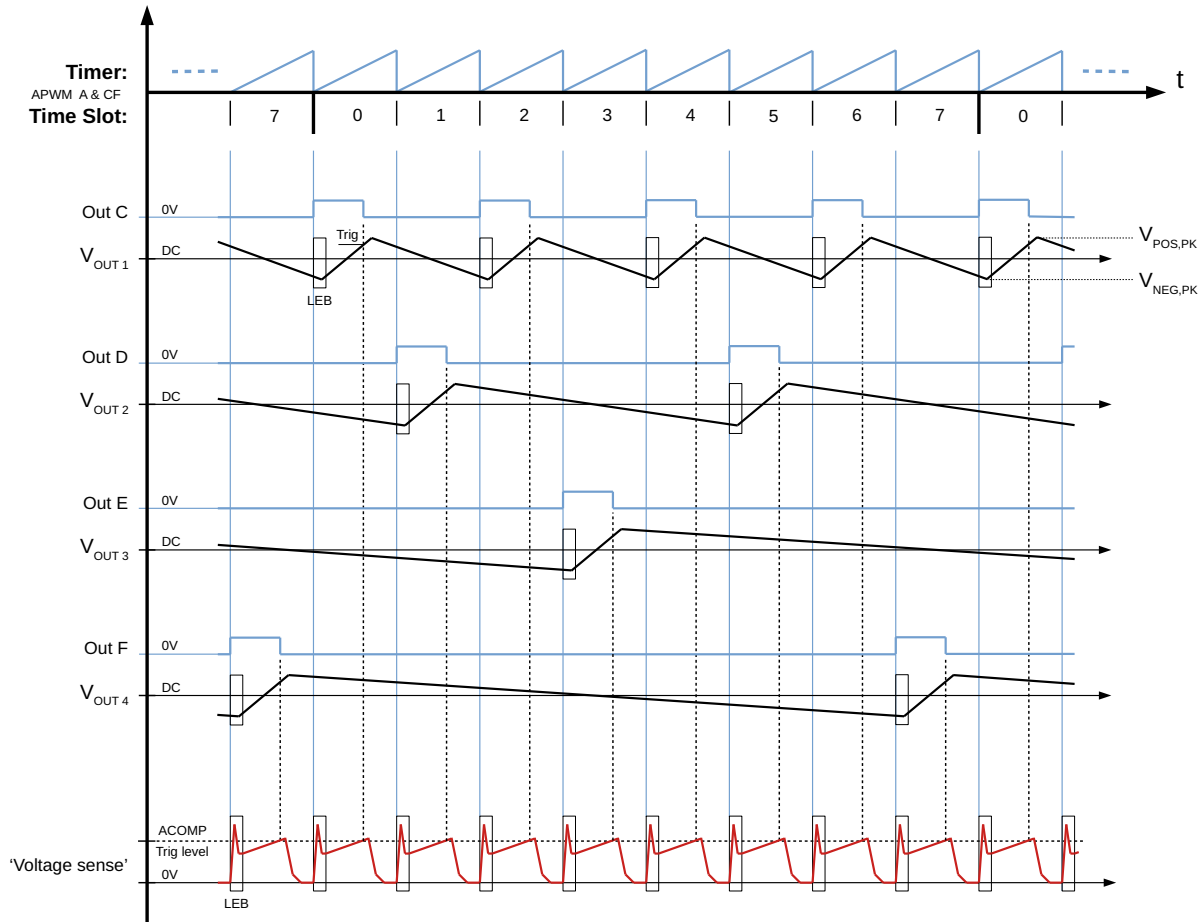

Figure 137. Timing diagram of a multi-converter controller for four output voltages.
Time slot configuration is set to 8 slots in the APWM_A Timer and the APWM_CF Timer, i.e., slot 0 to 7 exist. It is critical that both these Timers are configured identically, including their input Tick control from the same Main Timer, see figure 121. In this example, one output voltage uses every second slot, one uses two slots, and the last two outputs use one slot each, see figure 137. For configuration of APWM_CF, see section 53.4.
In the first time slot in figure 137, Out C turns on and connects its feedback signal to the ACMP input, see the red signal paths in figure 136. The output voltage, V_{OUT} , for this converter starts to increase. When it reaches the ACMP trigger level, the APWM_A State signal goes low, which is configured to end the duty cycle in APWM_CF. Thus, Out C goes low and turns off its power switch. After this slot ends, Out D turns on and connects its feedback signal to the ACMP input. This output voltage starts to increase, and when it reaches the ACMP trigger level the APWM_A ends the duty cycle so Out D goes low and turns off its power switch. In each of the 8 time slots, the ACMP controls the duty cycle in the active APWM_CF block in the same way. When the last time slot (7) has been executed, the sequence restarts immediately in the first time slot (0) again.
The output current capability for each output voltage will be according to the single-converter case above, but linearly decreased to be proportional to the number of time slots used for each output. So if all 8 slots would be used for one output, the capability is equal to the single-converter case, but the multiple APWM_CF concept would obviously be pointless. If half of the slots are used for one output, like for V_{OUT1} in figure 137, the current capability becomes 1/2. If 1/8 of the slots is used, like for V_{OUT3} and V_{OUT4} , the current capability becomes 1/8. Regarding the converter internal power dissipations, the average dissipations from cooling point of view will be reduced by the same slot factors. However, the pulse/peak stresses in the components will stay the same as in the single-output case.